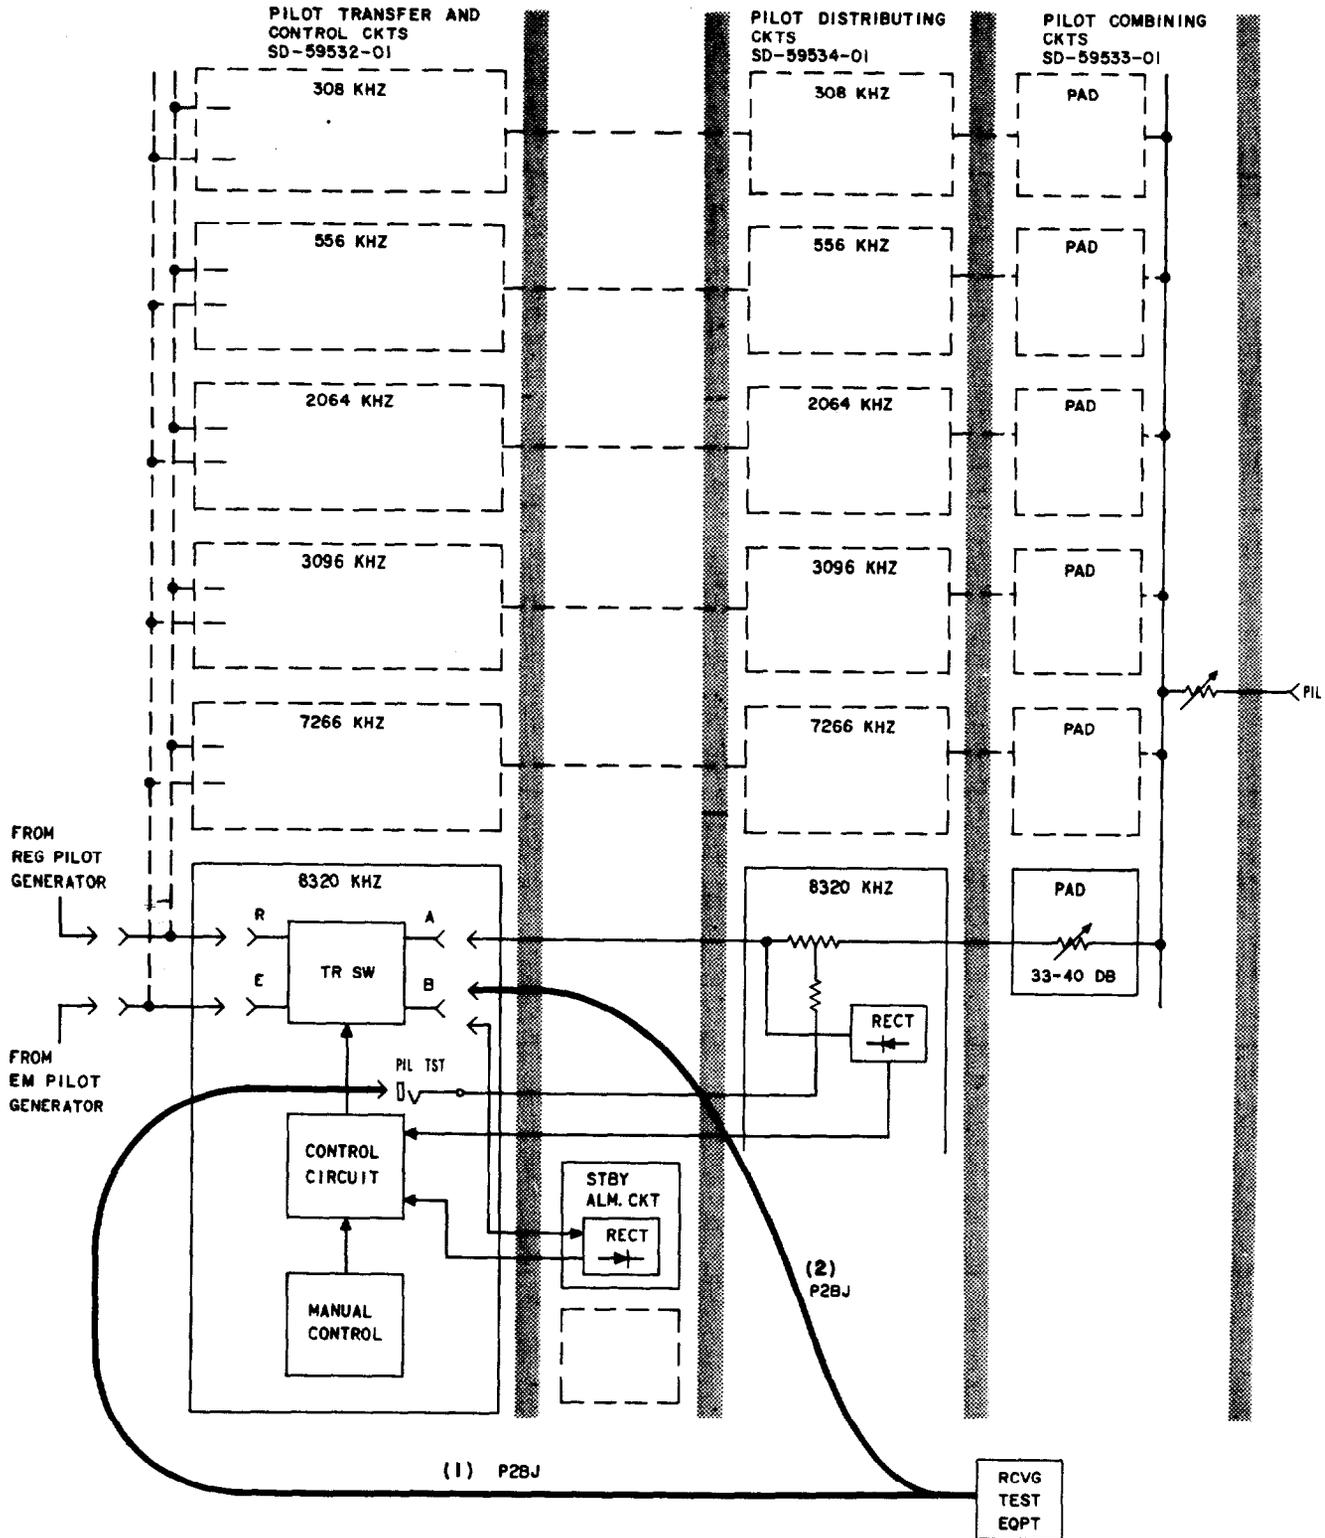

Fig. 2—Test Connections for Regular or Standby Pilot Generator Adjustments
2	Connect the RTE to the PIL TST jack [patch (1), Fig. 2].
(2) Remove patch (1), Fig. 2.
(3) Remove can covers from pilot generator and pilot transfer panels under test.
(4) Perform electron tube tests, as described in Section 356-150-501, on regular pilot generators.
(5) In the pilot transfer panel for the pilot frequency being adjusted, remove the B cable from the B jack of the transfer switch (Fig. 2), while watching the STBY GEN meter relay.
- (6) Connect the RTE to the B jack [patch (2), Fig. 2].
- (7) Set the OUTPUT control (using nonmetallic screwdriver) of the regular pilot generator under test to the center of its range.
- (8) Strap the output pad in the regular pilot generator under test to provide a power at the B jack as close as possible to the recorded power.
- (9) Remove patch (2), Fig. 2.
- (10) Reconnect the B cable to the B jack (on the transfer switch).
- (11) Replace can covers on PIL GEN and PIL TRNS panels.
- (12) Operate the RESET button.
- (13) Set MAN CON switch to the REG position.
- (14) Reconnect patch (1), Fig. 2.
- (15) Adjust the OUTPUT control (using nonmetallic screwdriver) of the regular pilot generator for an indication of -32.8 dBm on the RTE.
- (16) Remove patch (1), Fig. 2.
8 Connect RTE to PIL TST jack [patch (1) Fig. 2].
- (2) Remove patch (1), Fig. 2.
- (3) Remove can covers from PIL GEN and PIL TRNS panels under test.
- (4) Perform tube tests on EMG generator as described in Section 356-150-501.
- (5) In the pilot transfer panel for the pilot frequency being adjusted, remove the B cable from the B jack of the transfer switch (Fig. 2), while watching the STBY GEN meter relay.
- (6) Connect RTE to the B jack [patch (2), Fig. 2].
- (7) Set the OUTPUT (using nonmetallic screwdriver) of the EMG pilot generator under test to the center of its range.
- (8) Strap the output pad in the EMG pilot generator under test to provide a power at the B jack as close as possible to the recorded power.
- (11) Operate the RESET button.
- (12) Set MAN CON switch to the EM position.
- (13) Reconnect patch (1), Fig. 2.
- (14) Adjust the OUTPUT control (using nonmetallic screwdriver) of the emergency generator for an indication of –32.8 dBm on the RTE.
- (15) Remove patch (1), Fig. 2.◆
13	Remove patch (1), Fig. 2.